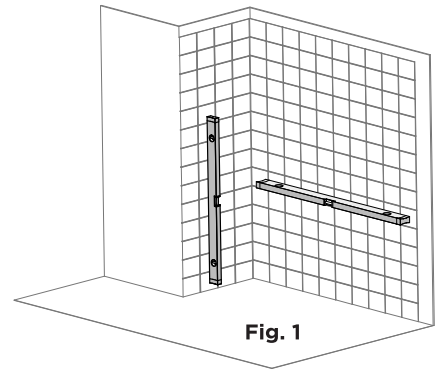

Fig. 1
- 3.1 Check the flatness of the existing surface using a 48-inch level. **(Fig. 1)**